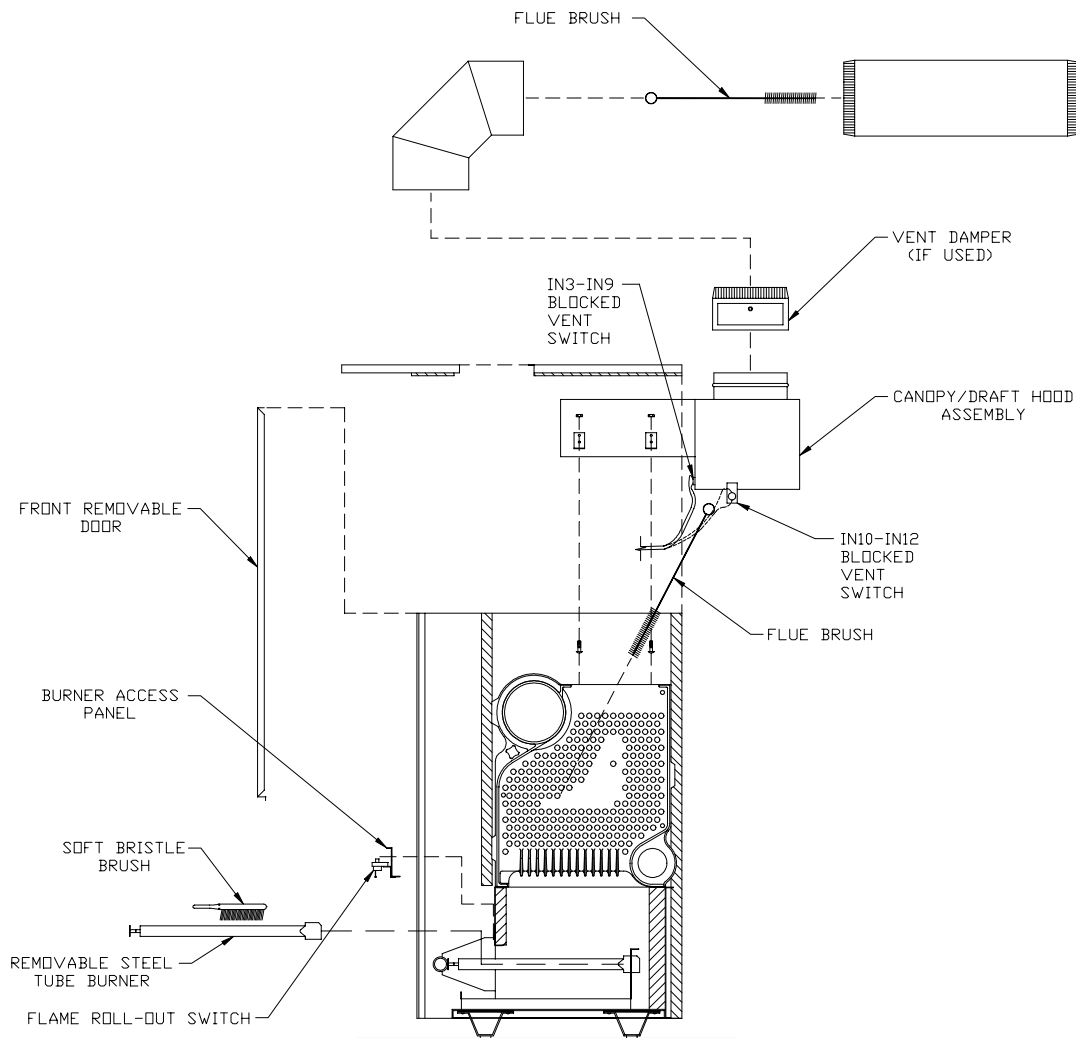

Figure 64: Boiler Flueway Cleaning
5. Thoroughly clean the flueways with flue brush. See Figure 64.
9. Check burners to be sure they do not contain foreign matter or restrictions. Clean burners with a soft bristle brush, blow any dirt out with compressed air or use a vacuum cleaner. See Figure 64.